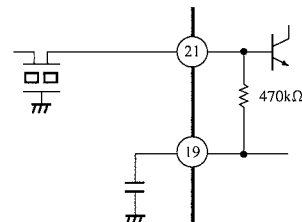

Fig.3
8. Input impedance of the FM-IF input Pin⑫ is 470Ω as shown in figure 3.